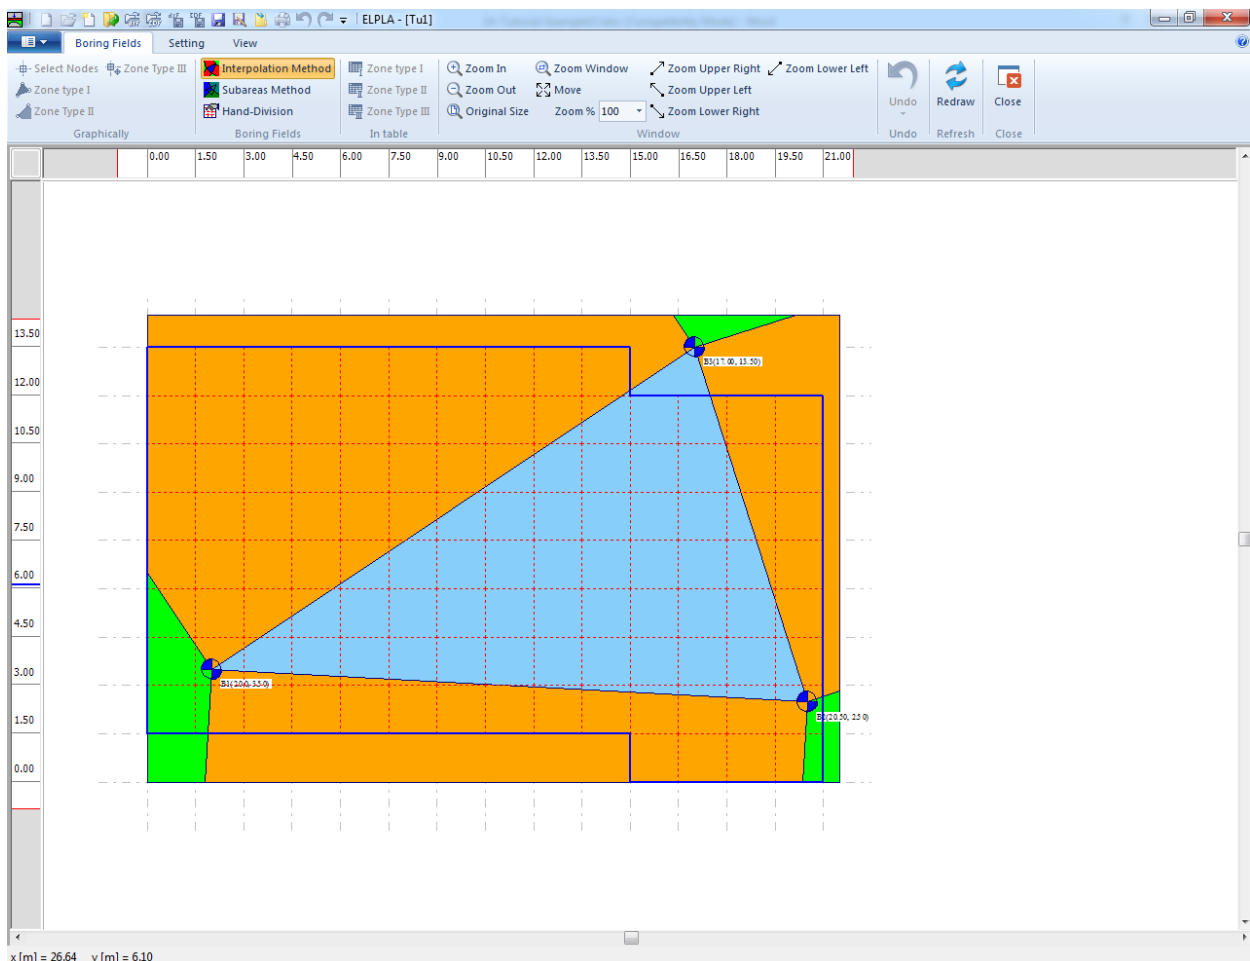

Figure 13.31 "Boring fields" window
To consider the Interpolation Method in the analysis, choose "Boring Fields" command from "Data" Tab. The following Window in Figure 13.31 appears with a default method. *ELPLA* considers that the Interpolation Method is the default one, which takes into account the irregularity of the subsoil. In most cases, *ELPLA* defines the interpolation zone types I, II, III automatically such as in this example. But in the case of extreme boring arrangements, the user must define these zones.
- Choose "Save" command from "File" menu in Figure 13.31 to save the data of boring fields
- Choose "Close" command from "File" menu in Figure 13.31 to close the "Boring fields" Window and return to *ELPLA* main window.